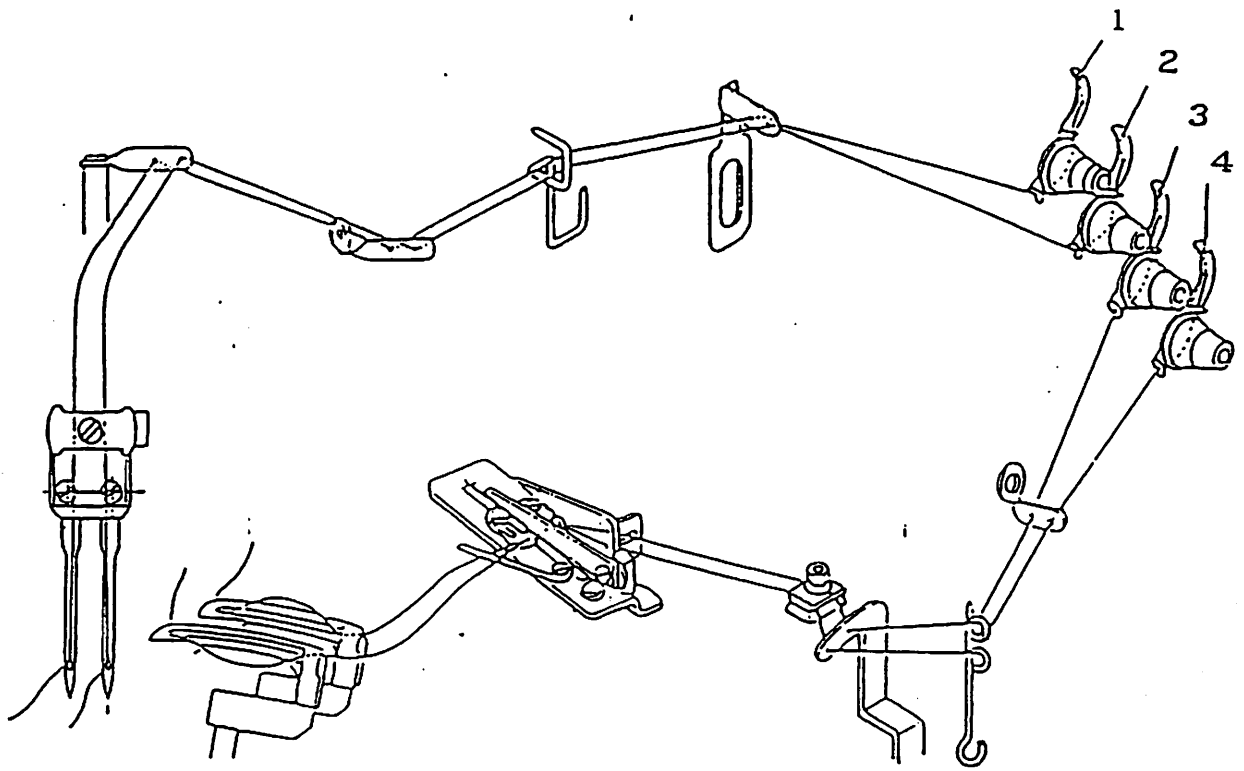

Fig. 3
5. Threading Method (Refer to Fig. 3.)